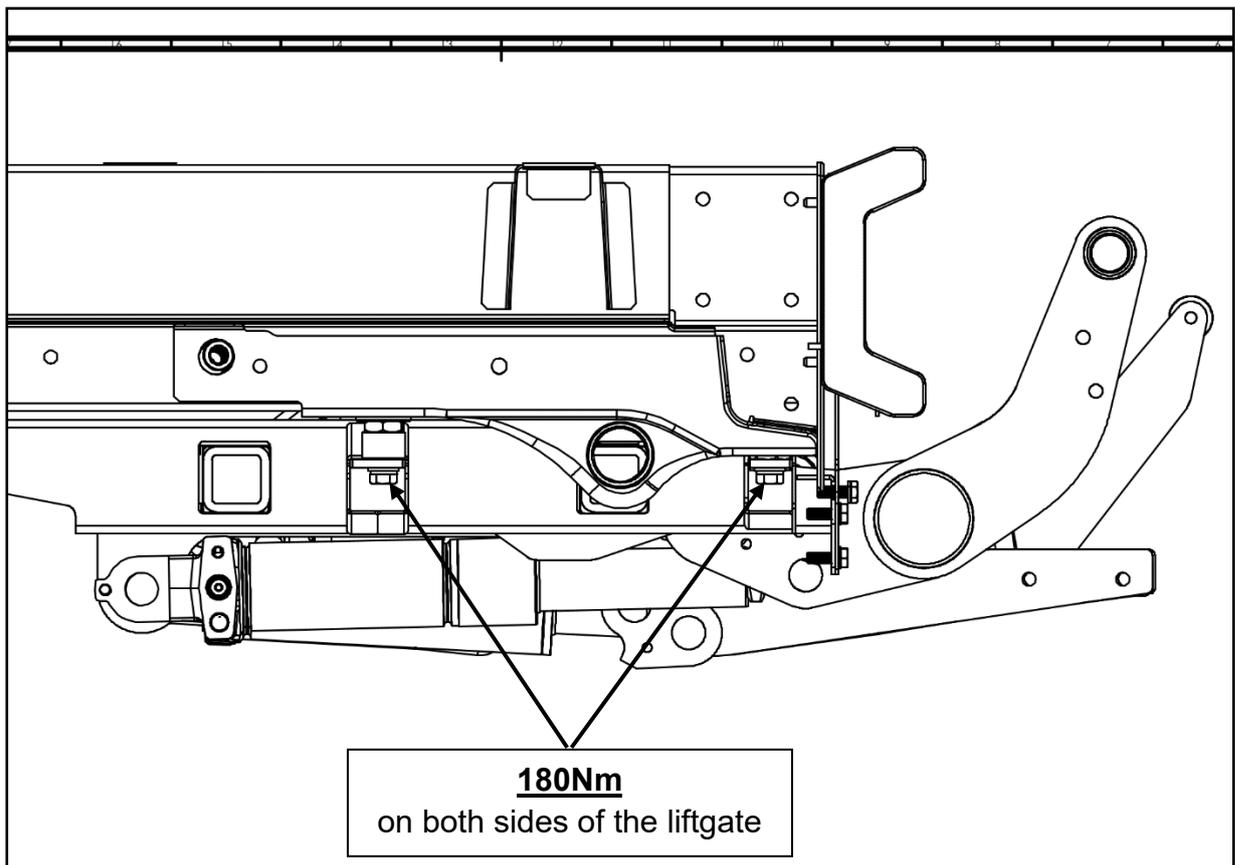

Figure 32
- Secure the completely premounted lifting gear (with adapters) to the vehicle and tighten to a torque of **180 Nm** for both front and back connections (refer to torque table on page 65 and Fig. 32).